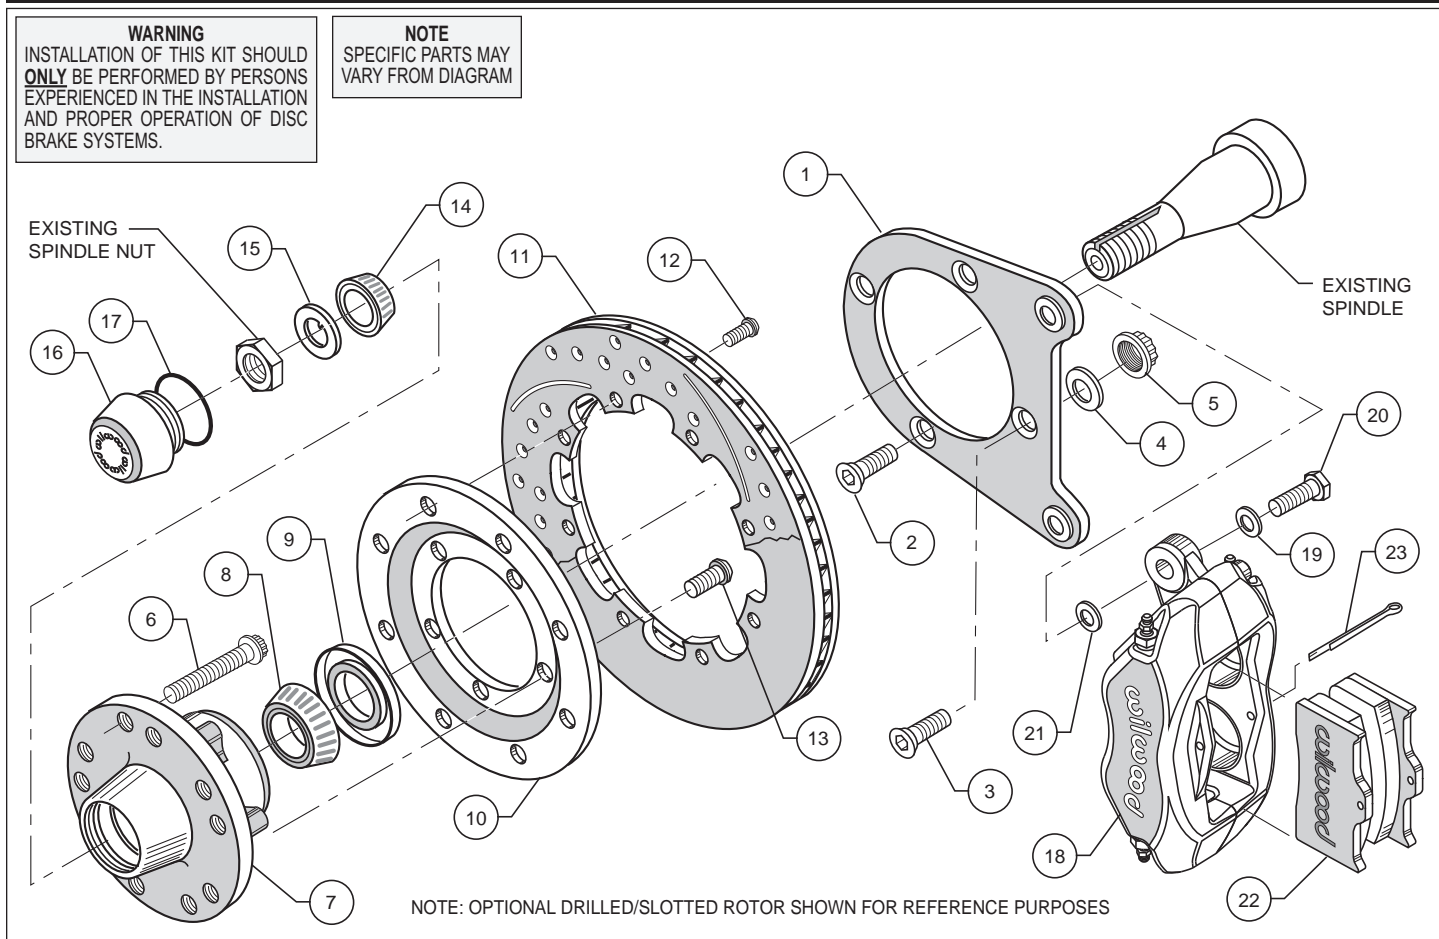

Figure 1. Typical Installation Configuration
- Orient the caliper mount bracket (1) as shown in Figure 1. Install using bolts (2) threaded into the steering arm and bolts (3), washers (4), and locknuts (5), Figure 1. Ensure that the flanged heads of the clinch nuts in the bracket are facing outboard, Figure 1. Temporarily tighten the mounting bolts. **NOTE:** The bracket must fit squarely against the mounting points on the spindle. Inspect for interference from casting irregularities, machining ridges, burrs, etc. Torque locknuts (5) to 65 ft-lb. Apply red *Loctite*® 271 to the threads of bolts (2) and torque to 80 ft-lb.
- Install wheel studs (6) into the hub (7). Torque to 77 ft-lb. **NOTE:** There are two five lug patterns in the hub (5 x 4.50 and 5 x 4.75). Make sure of the correct hole pattern for the correct wheel application before installing studs into hub.
- Pack the large inner bearing cone (8) with high temperature disc brake bearing grease (available from your local auto parts store) and install into the backside of the hub (7).
- Install the grease seal (9) by pressing into the backside of the hub (7).
- Orient the rotor (11) and the rotor adapter (10) as shown in Figure 1. Attach the rotor to the adapter using bolts (12). Using an alternating sequence, apply red *Loctite*® 271 to the threads, and torque to 25 ft-lb.
- Mount the adapter/rotor assembly (10/11) to the hub (7) using bolts (13), as shown in Figure 1. Using an alternating sequence, apply red *Loctite*® 271 to the threads, and torque to 45 ft-lb.
- Pack the small outer bearing cone (14) with high temperature disc brake bearing grease and install into front of hub (7). Slide the hub/rotor assembly (7 and 11) with outer bearing cone (14) onto the spindle. Secure using new spindle washer (15), your adjusting nut and nut locking device. Adjust bearings per Original Equipment Manufacturer (OEM) specifications.
- Install the dust cap (16) onto the hub (7). Friction created by the o-ring (17) on the dust cap (16) keeps it from unscrewing. Be sure the spindle washer (15) seats properly against the hub face.